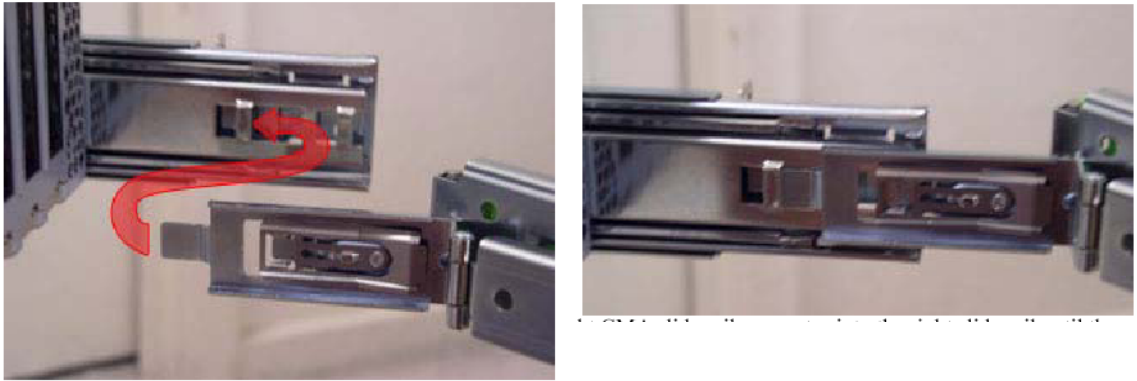

FIGURE 15 CMA Mounting Bracket
6. Insert the CMA's mounting bracket connector into the right mounting bracket until the connector locks into place with an audible *click* (FIGURE 15).